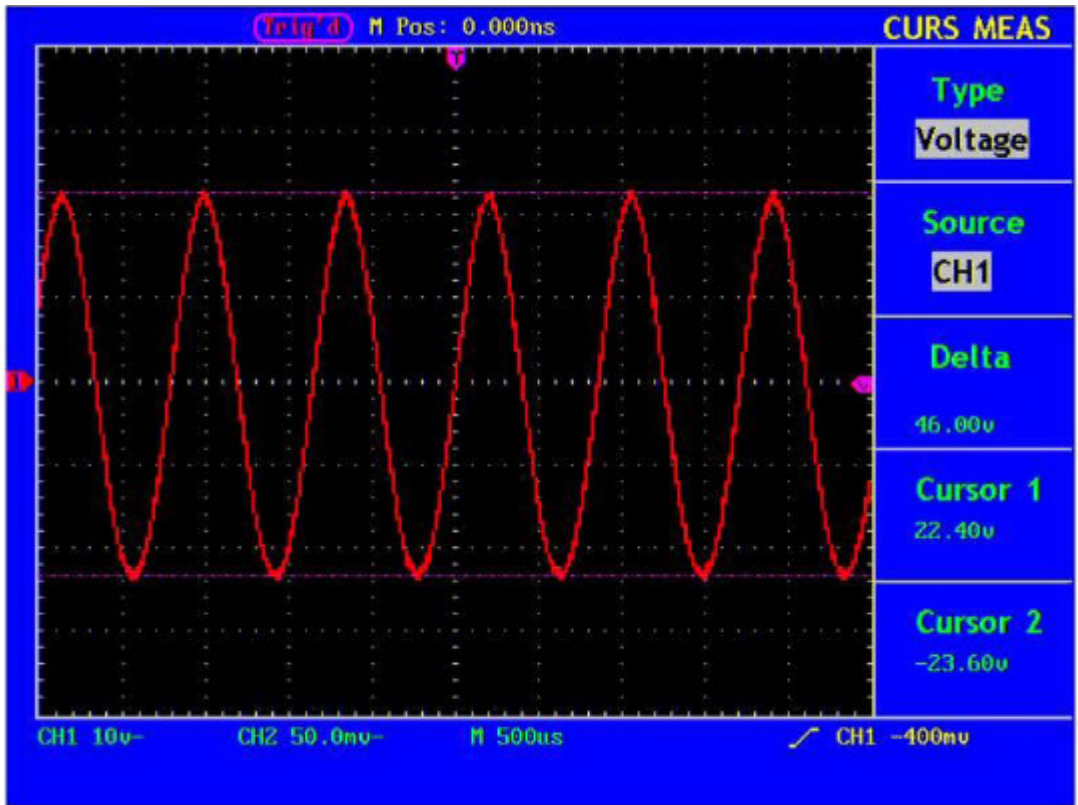

Fig. 56 Wave Form of Voltage Cursor Measurement
4. Adjust the positions of **CURSOR1** and **CURSOR2** according to the measured wave form, with the absolute value of the voltage amplitude difference between Cursor 1 and Cursor 2 displayed in the increment window. The current position of Cursor1 is displayed in the Cursor1 window and that of Cursor2 is displayed in the Cursor2 window (see Fig. 56).